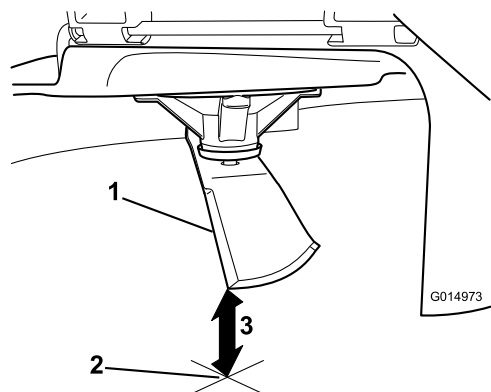

Figure 78
5. Measure from the tip of the blade to the flat surface (Figure 78).